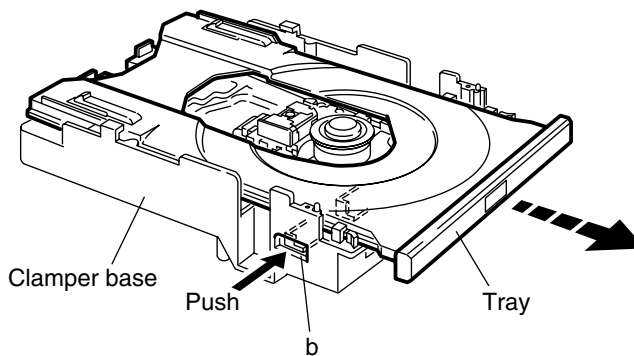

Fig.2
■ Removing the mechanism assembly (see Fig.2,3)
■ Removing the tray (See Fig.2 and 3)